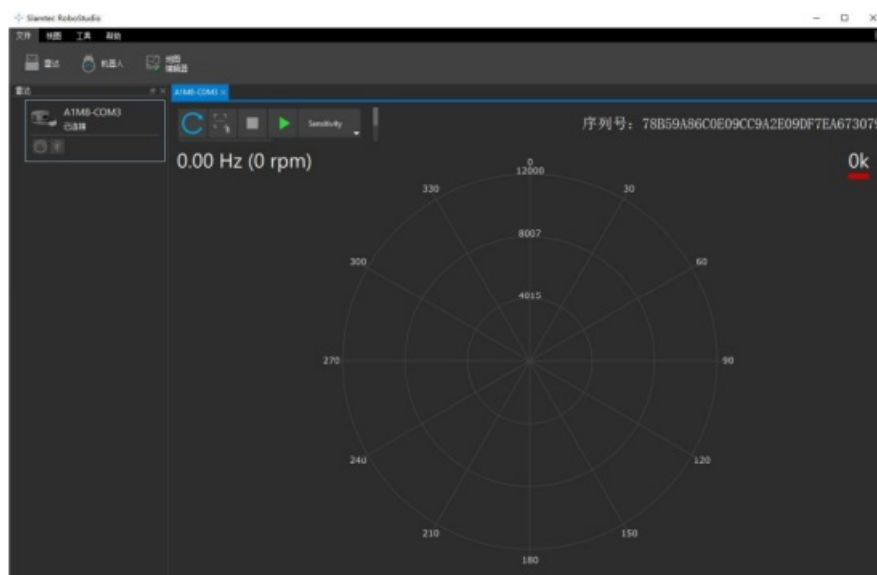

Figure 2-7 The Lidar Plugin in RoboStudio
3. Click the RPLIDAR A1 icon to extend the tool buttons below the icon: the left one is to adjust the motor speed(RPLIDAR A1 is not adjustable by default.) while the right one is to open the tool bar in the major work area as shown in Figure 2-7.